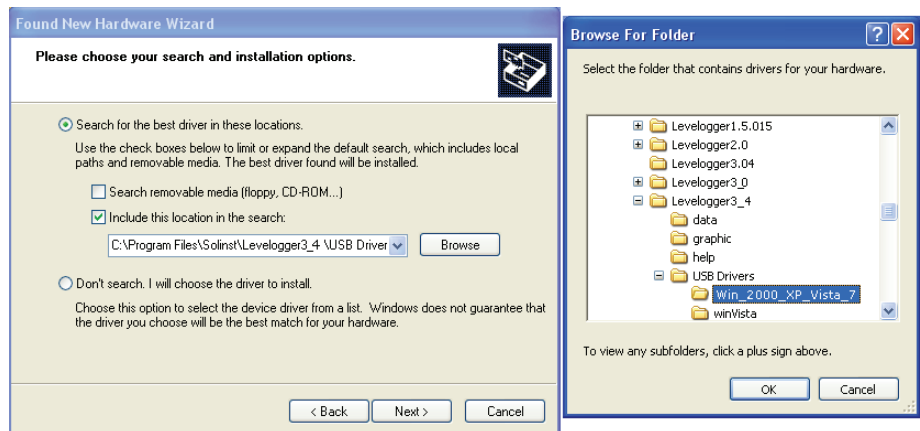

Figure 3-7 Found New Hardware Window and Figure 3-8 Browse for Folder Window
- 4) Select the installation option, 'Include this location in the search' (Figure3-7), then click the 'Browse' Button to search for the appropriate directory: